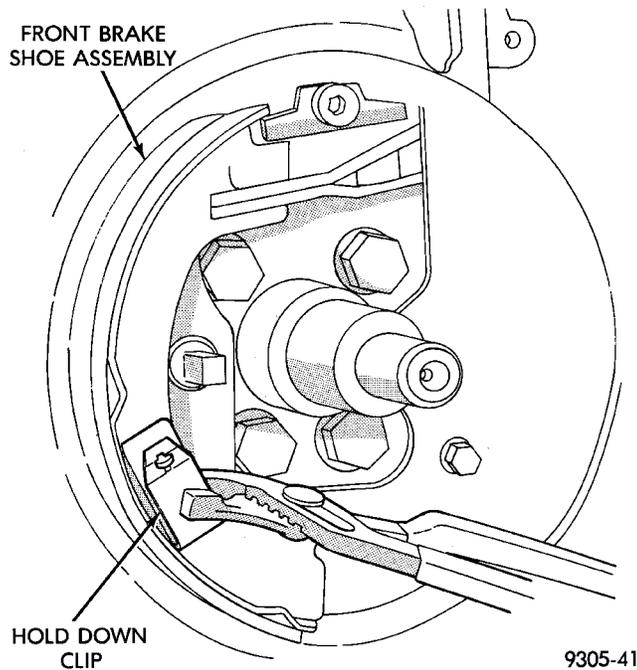

Fig. 162 Front Hold Down Clip And Brake Shoe
(11) Remove front brake shoe hold-down clip (Fig. 162). Then remove front brake shoe assembly.
- (1) Install front brake shoe and hold down clip (Fig. 162).